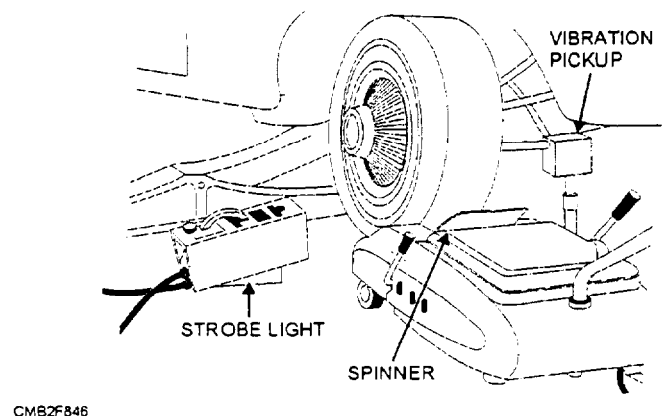

Figure 8-46.—On-the-vehicle balancer.
- **ON-THE-VEHICLE BALANCER** (spin balancer) (fig. 8-46) is also used to balance a tire statically and dynamically. An electric motor is used to spin the wheel assembly and either a electronic pick-up unit or hand-operated device is used to determine the location for the wheel weights. An on-the-vehicle type balancer is desirable because it can balance not only the wheel assembly, but the wheel cover, brake disc or drum, and lug nuts. Everything is rotated as a unit.